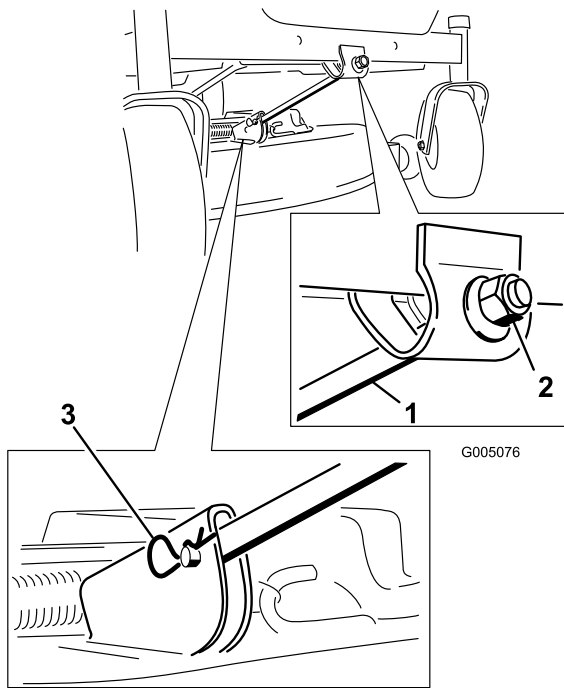

Figure 52
4. Remove the hairpin cotter and clevis pin from the front support rod (Figure 52). Carefully lower the front of the mower deck to the ground.
- Attach the front support rod to the mower deck with the clevis pin and hairpin cotter (Figure 52).